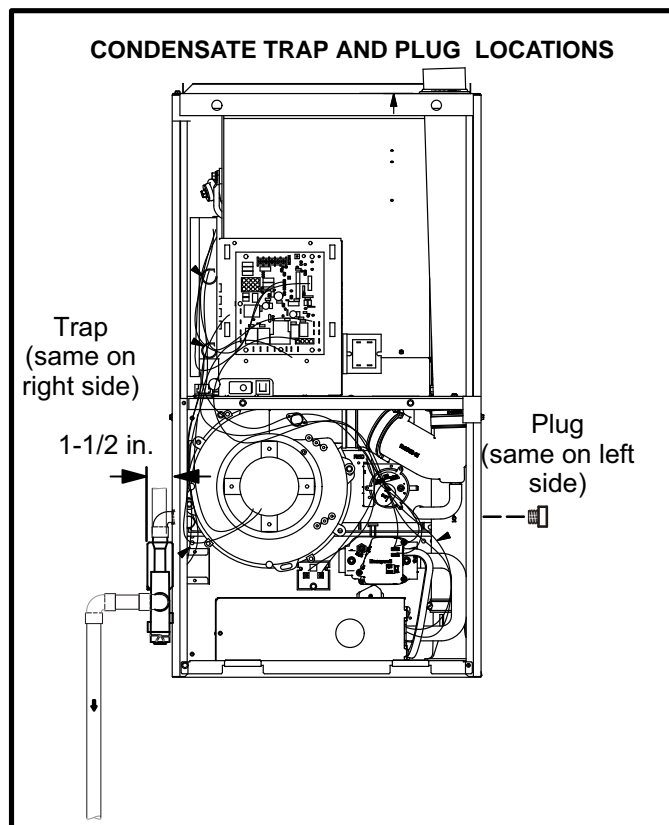

FIGURE 42
This unit is designed for either right- or left-side exit of condensate piping. Refer to figure 42 for condensate trap locations.
- 2 - Use a large flat head screw driver or a 1/2" drive socket extension and remove plug (figure 42) from the cold end header box at the appropriate location on the side of the unit. Install provided 3/4 NPT street elbow fitting into cold end header box. Use Teflon tape or appropriate pipe dope.